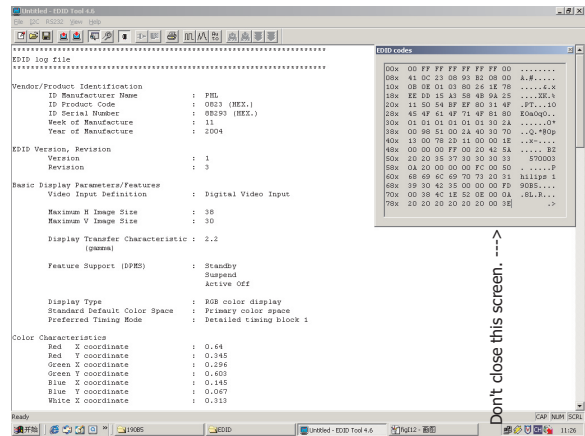

Fig. 26
4. Click icon (Read EDID function) to read DDC EDID data from monitor. The EDID codes will display on screen as shown in Fig. 26.